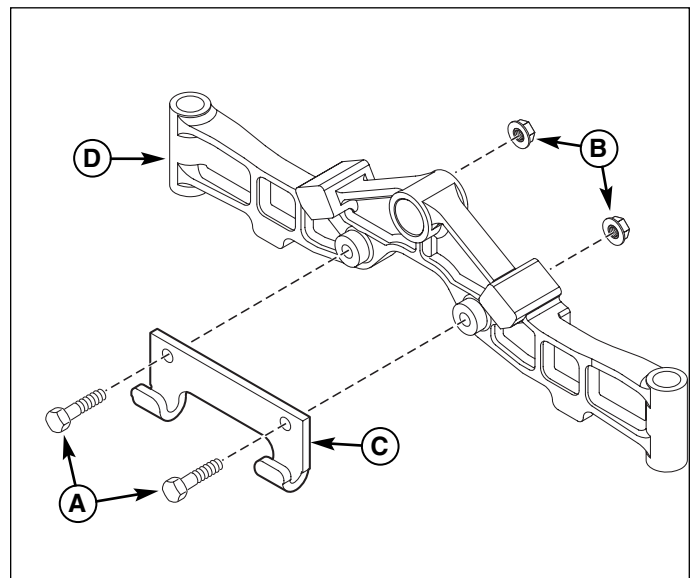

Figure 2. Remove “J”-Hook
2. Remove and retain 7/16-14 x 2 capscrews (A, Figure 2) and 7/16-14 locknuts (B) from front axle (D). Discard “J”-hook (C).